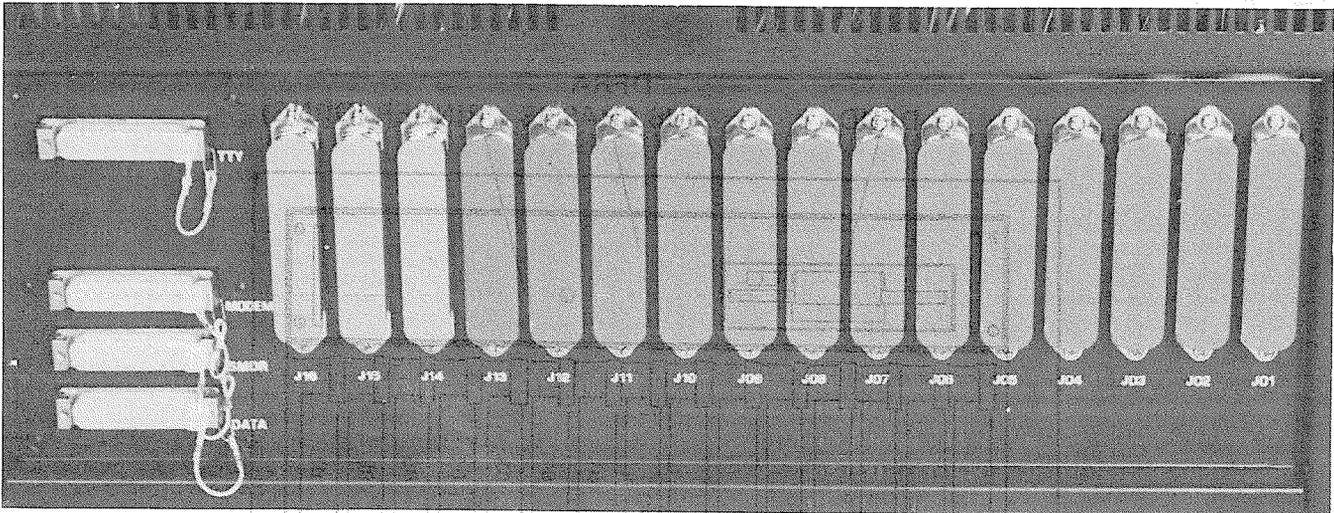

FIGURE 3—REAR CABINET CONNECTIONS
01.13 External connections are made to the system via amphenol-ended cables connected at the rear of the cabinet (Figure 3), and terminated on a main distribution frame (MDF).